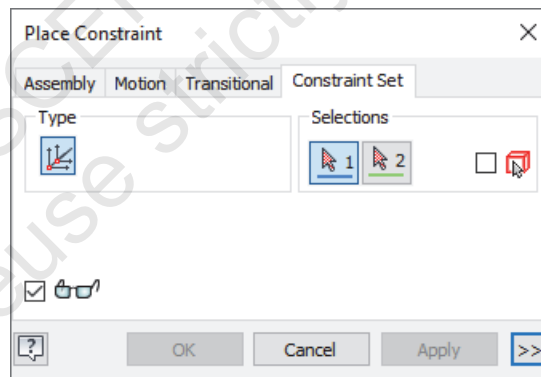

Figure 1–31
3. What is the purpose of the *Constraint Set* tab shown in Figure 1–31?